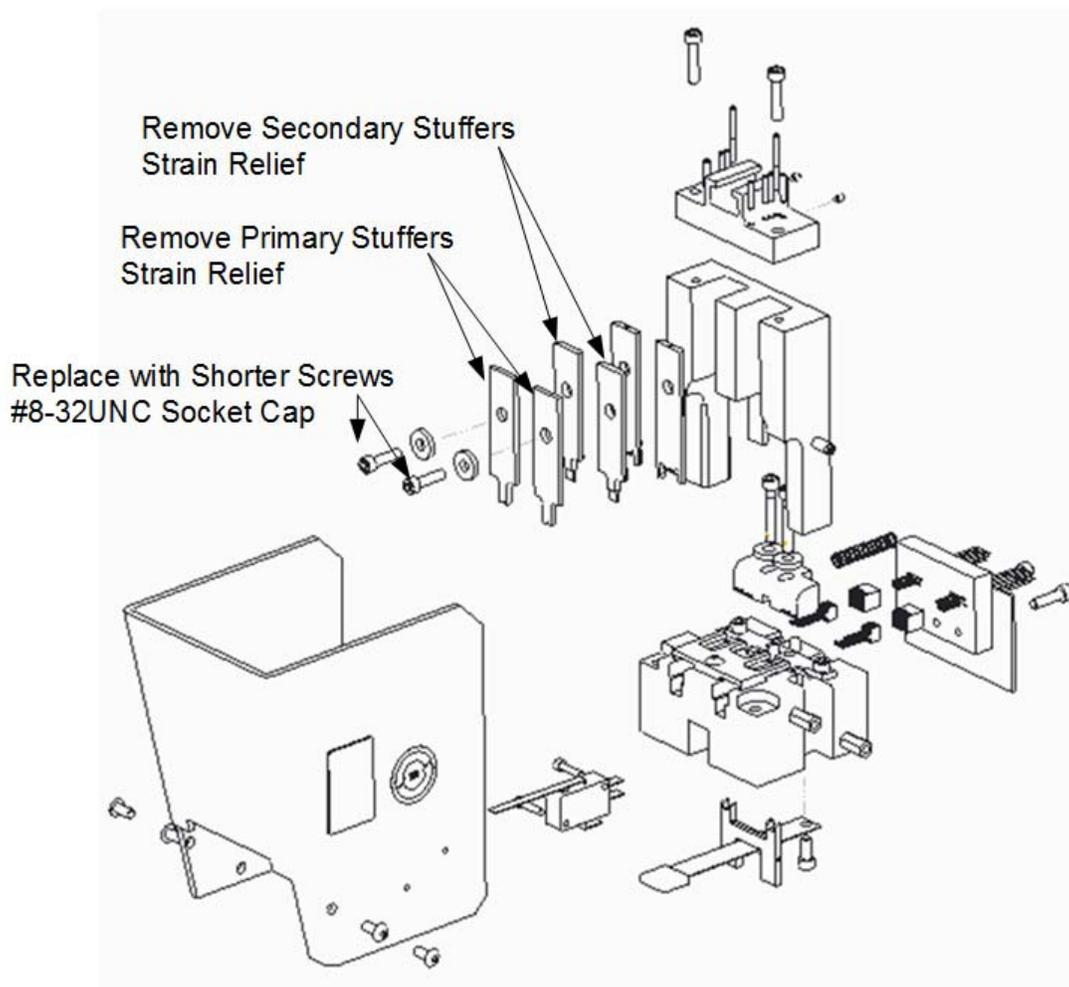

Figure 4: Tooling
**Module 856196-2** comes with two Primary Stuffer strain relief blocks and two Secondary Stuffer strain relief blocks per below in Figure 4. Remove the two Primary Stuffer strain relief blocks and two Secondary Stuffer strain relief blocks from module and if require replace the two #8-32UNC socket cap screws with shorter length screws.